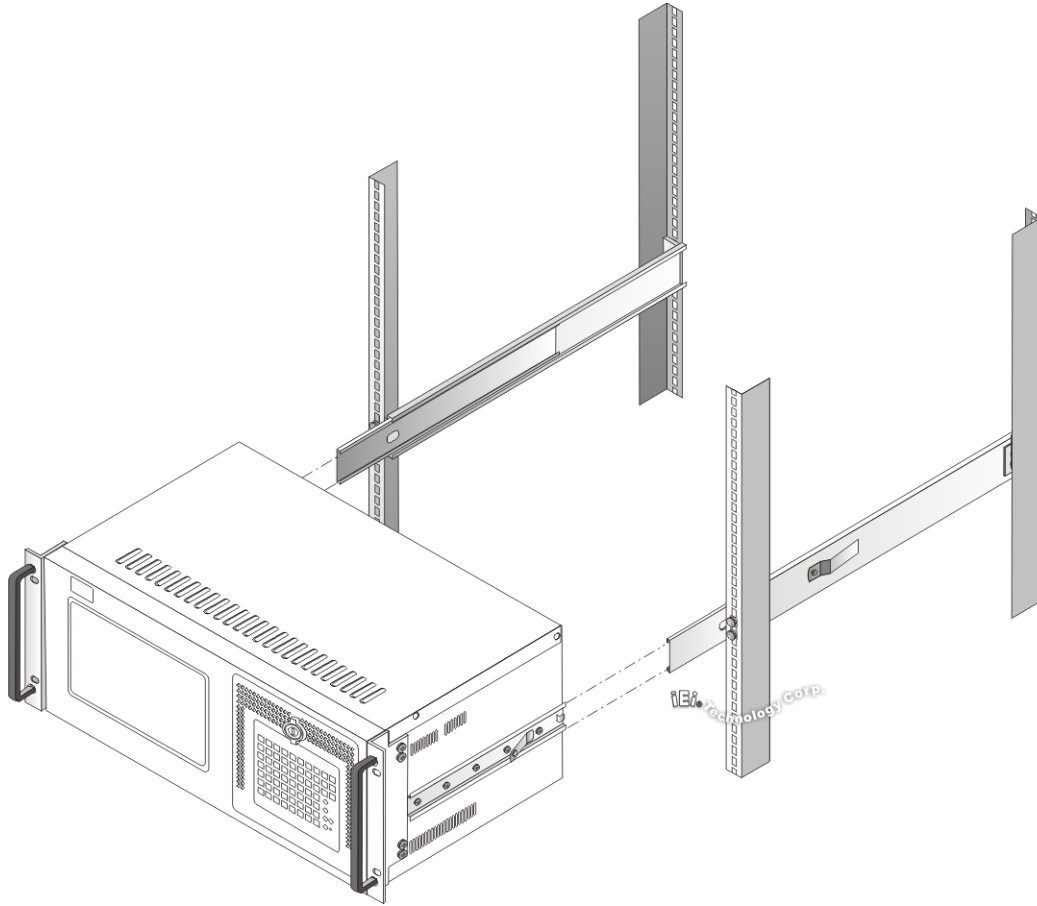

Figure 4-21: Install Workstation into Rack
Step 6: Insert the workstation with the attached slides into the rack slide brackets until the handle brackets are flush against the rack. (See **Figure 4-21**)